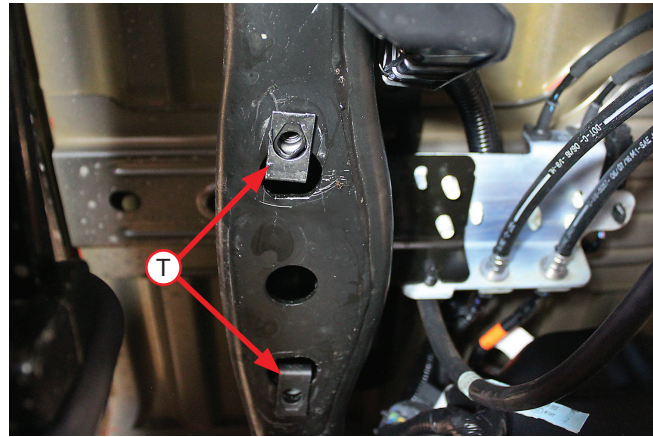

Fig. 5
3. Install the universal nuts (T) into the frame rail, lining up the holes in the frame and the threads in the nuts so that a bolt can be installed (Fig. 5).